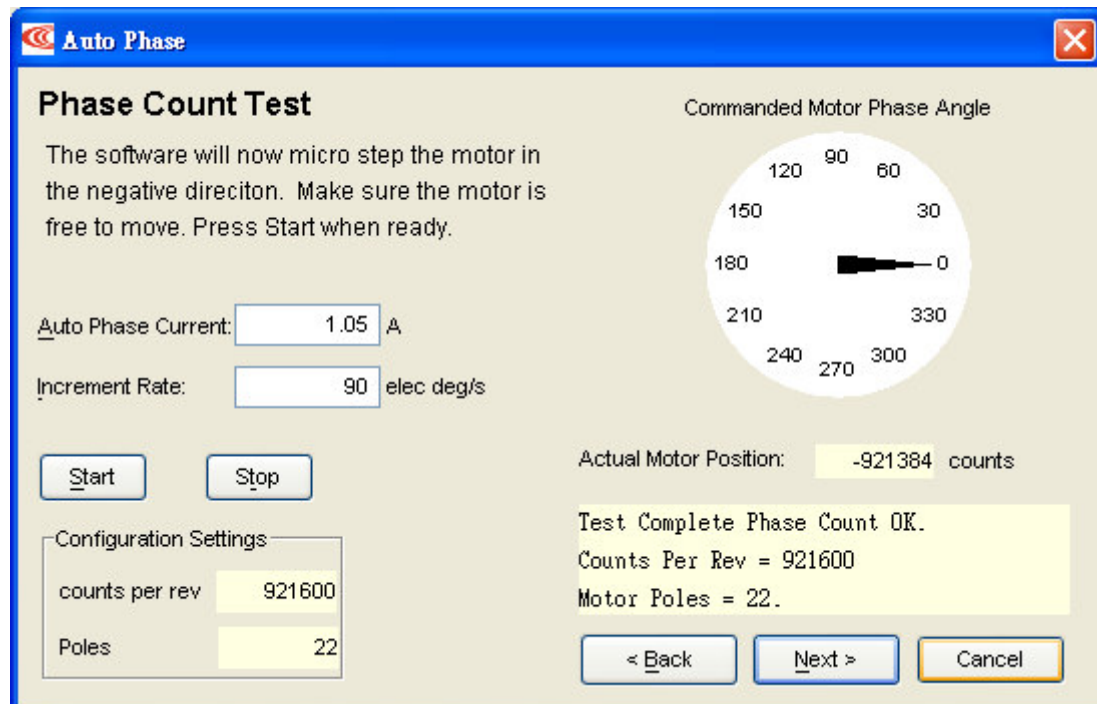

Fig. 15 Phase Count Test
- e. After finishing Motor Wiring Setup, press next and Fig. 15 Phase Count Test appears. Press Start, and the amplifier would drive the motor according to Auto Phase Current which is set by user. Now the motor turns slowly one revolution, after finished, if Actual Motor Position is close to the setting of Interpolation counts per Rev. shown in Fig. 9, it shows Test Complete Phase Count OK.